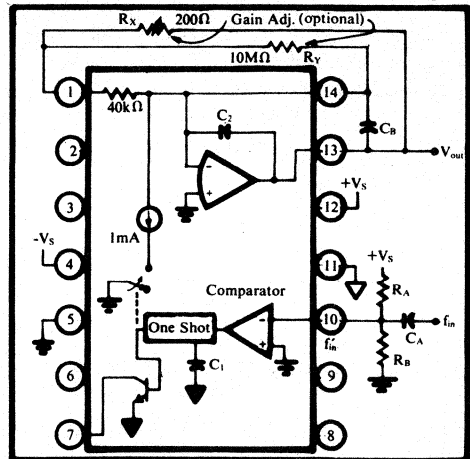
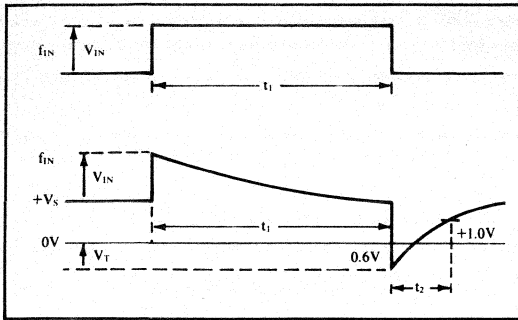

FIGURE 5. Connection Diagram for F/V Operation
FIGURE 6. F/V Input Waveforms
**Input Characteristics:** VFC42 and VFC52 can be connected as frequency-to-voltage converters as shown in Figure 5.  $f_{\text{IN}}$  should be a positive pulse train with minimum pulse width of  $1.0\mu\text{sec}$  and rise and fall times of  $\leq 300\text{nsec}$ . The input train ( $f_{\text{IN}}$ ) is differential and applied to the input of the comparator (pin 10). Refer to Figure 6. Threshold voltage of the comparator lies between -0.6 and +1.0V. When comparator input is less than -0.6V it triggers the one shot.
**Gain Adjustment Procedure:** Connect  $R_X$  and  $R_Y$  as shown in Figure 5. Apply full scale frequency to the input and adjust  $R_X$  until full scale voltage is  $+10V \pm 1mV$  (discounting ripple).  $R_X$  and  $R_Y$  should have temperature coefficients of  $< 500$  ppm. These external components will add less than  $5$  ppm/ $^{\circ}C$  to temperature drift.